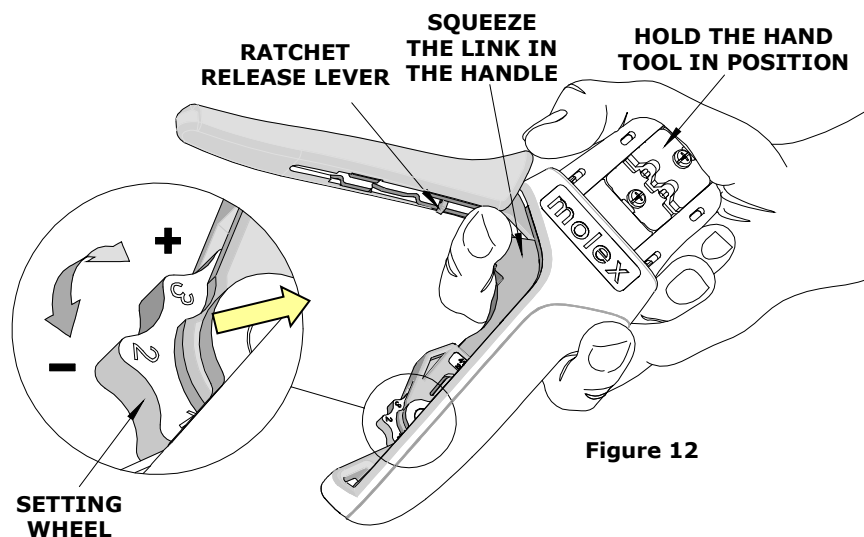

Figure 12
### How to Adjust Tool Preload (See Figure 12)
1. Hold the hand tool in the palm of your hand as shown in Figure 12. Using the index finger squeeze the link towards the top of the hand tool frame. This will release the preload adjustment wheel.
2. Rotate the setting wheel counter-clockwise (CCW) to increase handle force. The numbers will display higher. To decrease handle force, rotate the setting wheel clockwise (CW).